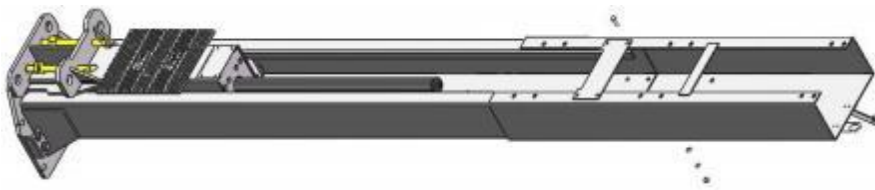

Fig. 22 Medium Setting
2. Medium Setting, connecting the middle holes of outer columns with the inner columns. (**See Fig.22**)